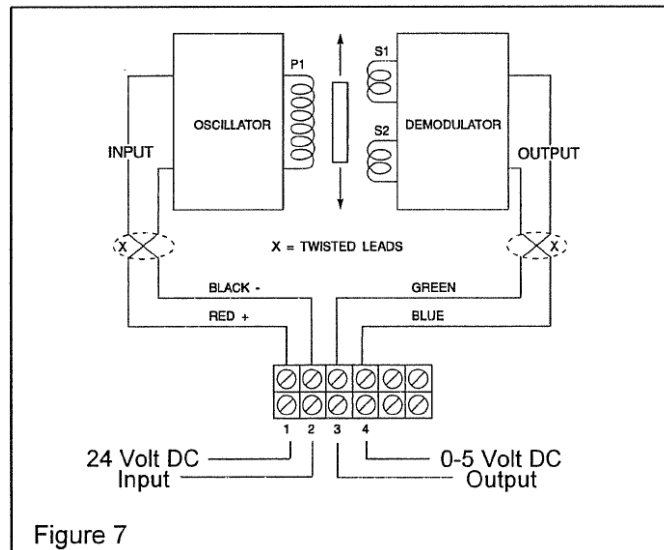

Figure 7
4. Observing correct polarity, connect the input power leads to bottom Terminal 1 and 2 on the Terminal Board. (For correct polarity refer to Figure 7)
2. Connect a voltmeter to Terminal 3 and 4 at the top of the terminal board (See Figure 7)